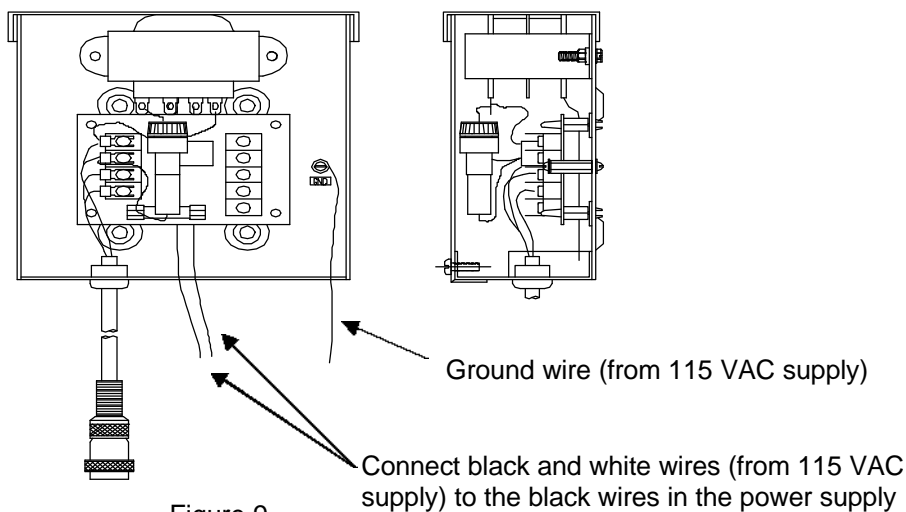

Figure 9
3. The center hole on the underside of the power supply box provides access for conduit and connection of 115 VAC power. Connect the 115 VAC black and white leads in the power supply as shown. (Figure 9)
4. Connect the ground wire to the ground terminal as shown in Figure 9.